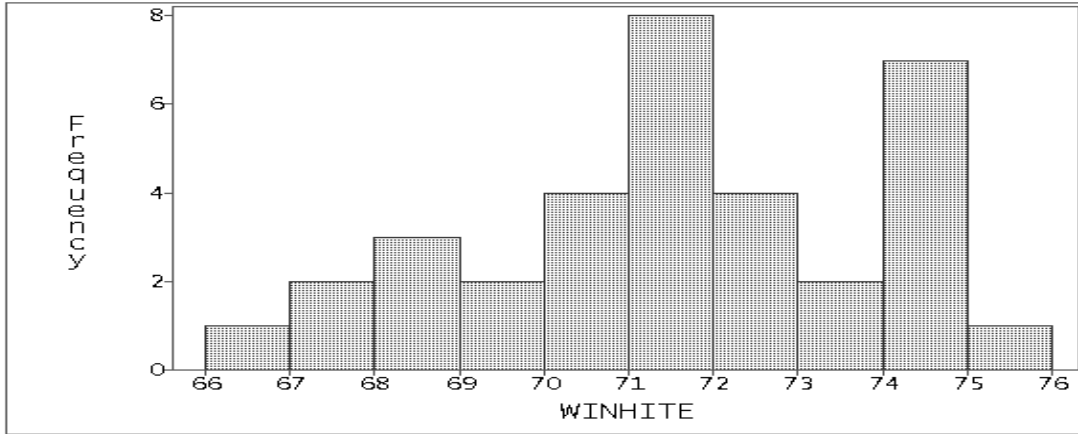

Figure 1: *Histogram of election winner's heights.*
- o Frequency Histogram: shows **Data Distribution**: static pattern of variation. A histogram of the election winner's heights from the prezHITE data set is shown in Figure 1.